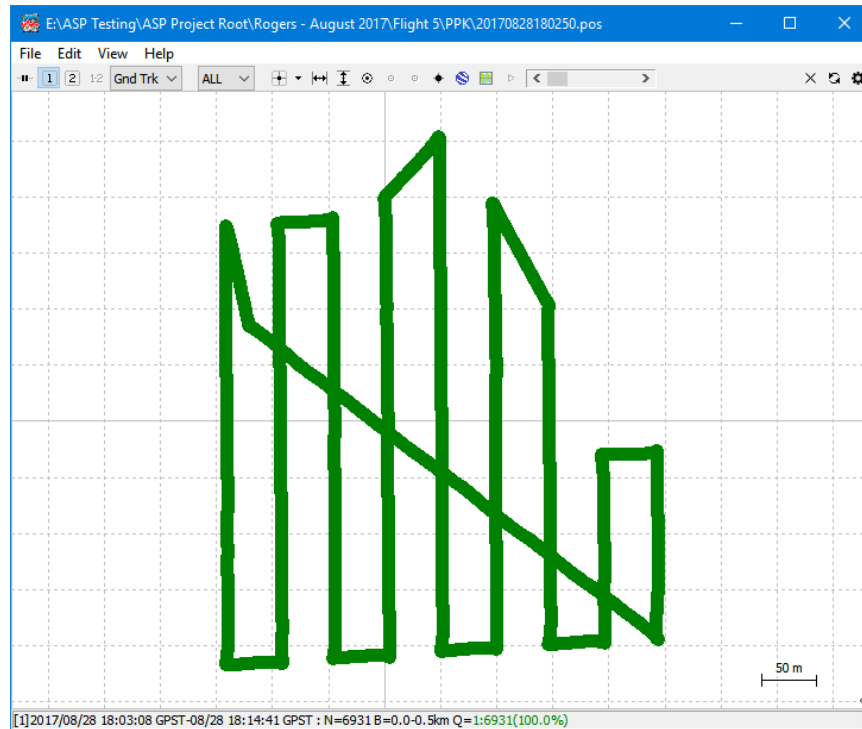
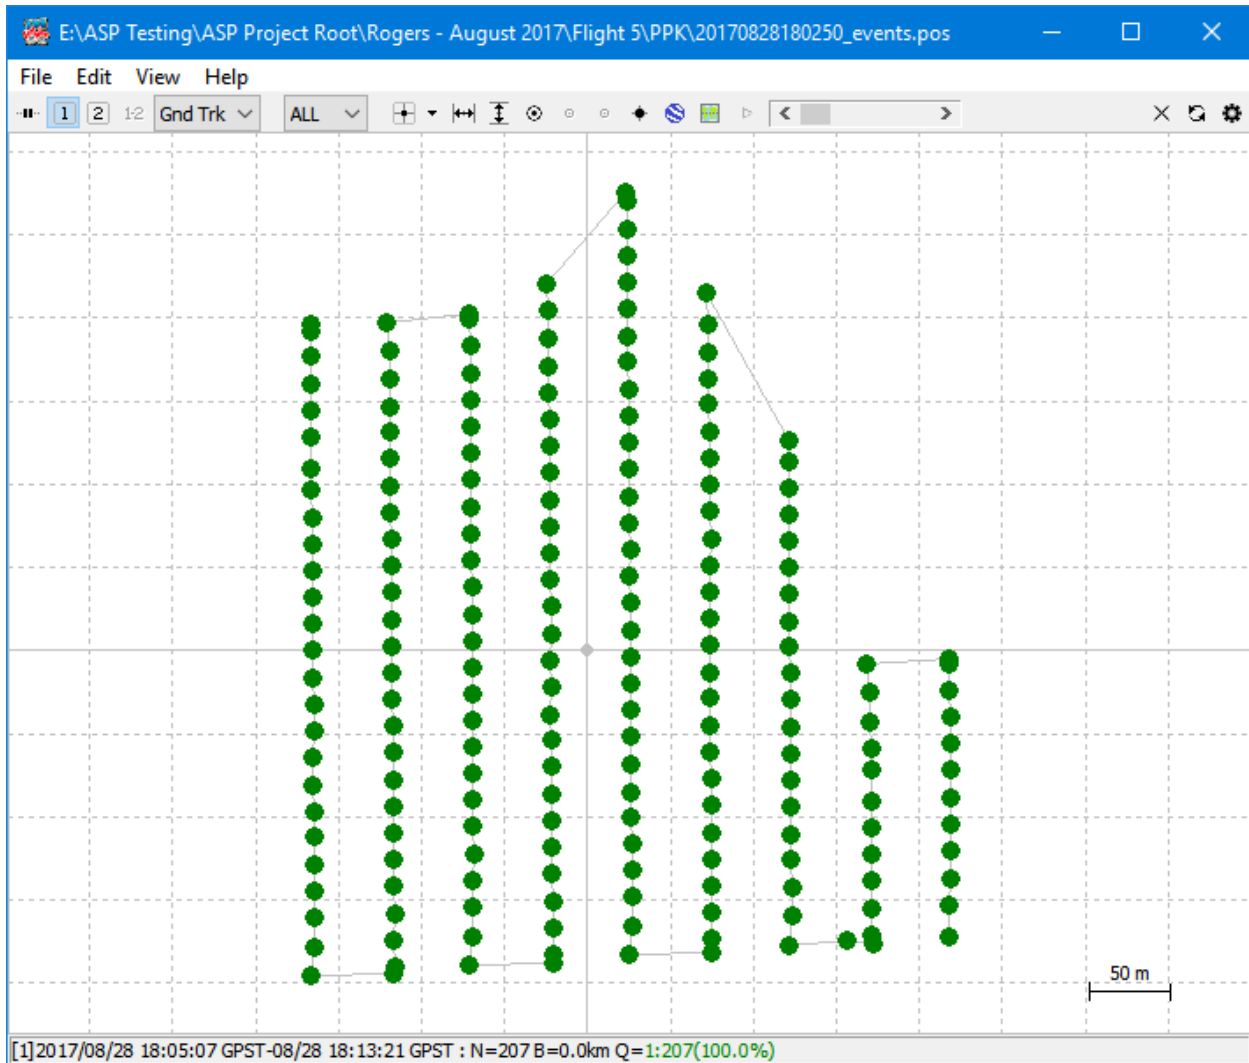

Figure 2: GNSS PPK Trajectory File
Figure 3: Interpolated Events
- Creation of the Global Navigation Satellite System (GNSS) post-processed kinematic (PPK) trajectory file (see Figure 2). This file contains a row per solution containing the time, the position (X, Y, Z) and the quality Q (1 is a "fixed" solution). The Loki sampling rate is 10 Hz, yielding 10 rows for each second that Loki is active and locked on to sufficient satellites to resolve a solution. There are also rows of *Events* in this file. An event is logged each time Loki detects a Mid Exposure Pulse (MEP) from the camera MEP input. This event is simply a time stamp. It is not necessarily on a 10 Hz boundary so a later processing step has to interpolate the position associated with each event.
- Event Interpolation – In this step, event positions are interpolated from the trajectory file (we use a cubic spline routine for this interpolation), leaving a list of events, time and interpolated positions. This is initially the position of the phase center of the Loki GNSS antenna each time a MEP occurred. The position is then corrected by the lever arms (the X, Y and Z offsets between the phase center of the antenna and the camera focal center). If the attitude of the aircraft is available (which it is in the case of the Phantom 4 Pro and the Inspire 2), a dynamic correction is applied which compensates for the effective distance changes caused by Pitch, Yaw and Roll of the aircraft. On the DJI craft, the focal center of the lens is conveniently located in the center of the gimbal so no additional gimbal computations are required. An example of the events interpolated from the trajectory of Figure 2 is shown in Figure 3.